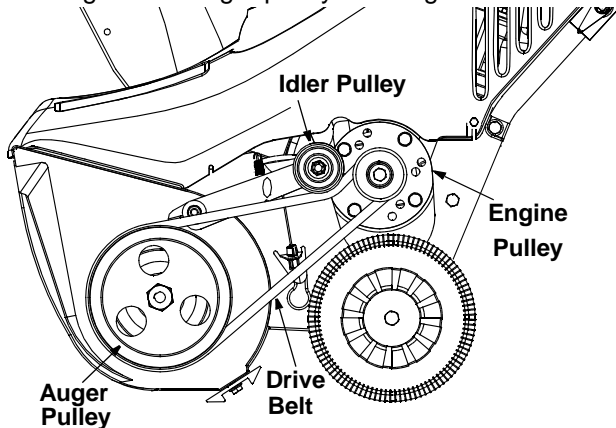

Figure 9
- Pull up on the idler pulley and slip the belt off the engine and auger pulley. See Figure 9.